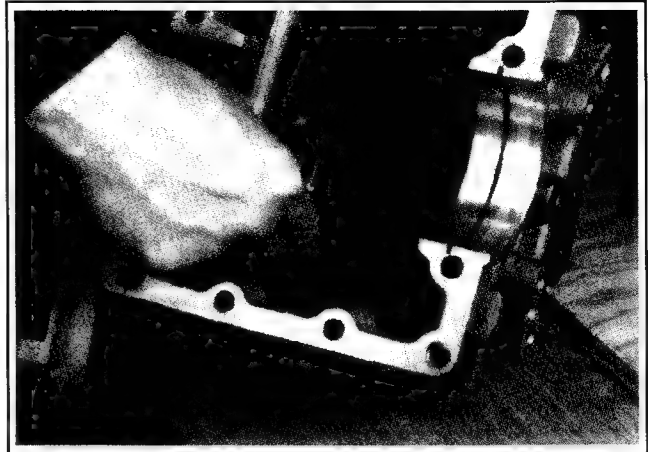

Figure 11-6. Installing Oil Pick-up Screen.
1. Install the oil pick-up filtering screen inside the lower crankcase half. See Figure 11-6.